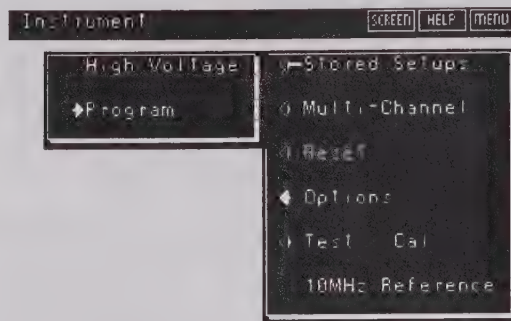

Figure D-4. Instrument/Option Screens
- Press the INSTRUMENT key and select OPTIONS from the pop-up menu. Refer to Figure D-4.